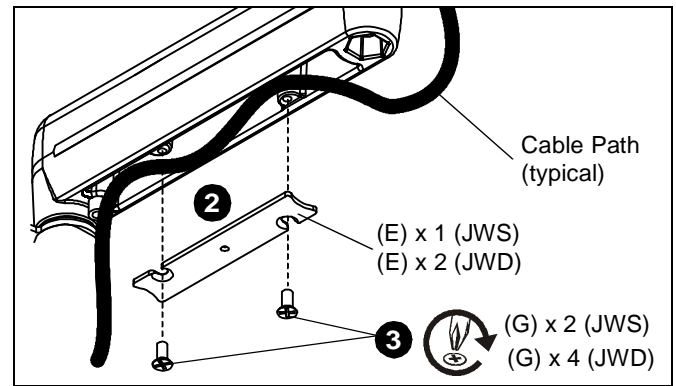

Figure 7
2. Carefully insert cables in cavity located in lower portion of mount arm (See Figure 7).
3. Install cover (E) with two 8-32 x 3/8" Phillips screws (G). (See Figure 7)